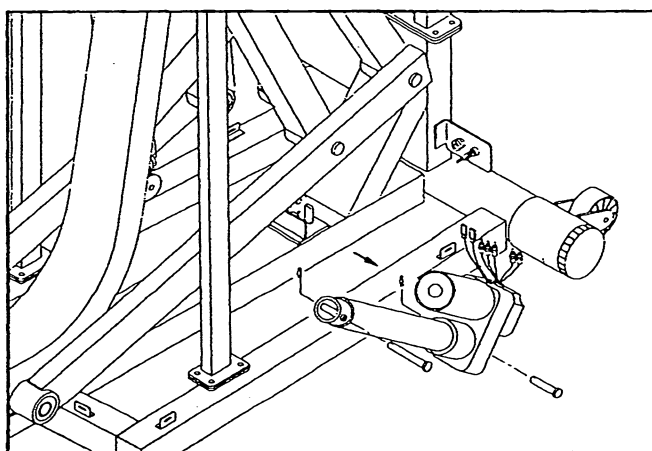

Fig.8-2
3. Remove the ELEVATOR MOTOR by taking apart the bolts (see fig.8-2)